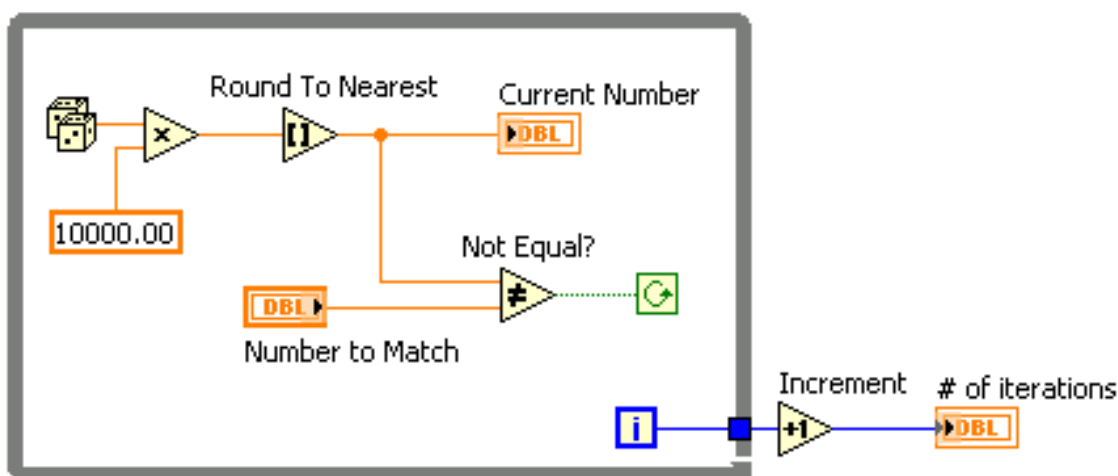

Figure 4.6
1. Build the block diagram in Figure 4.6.